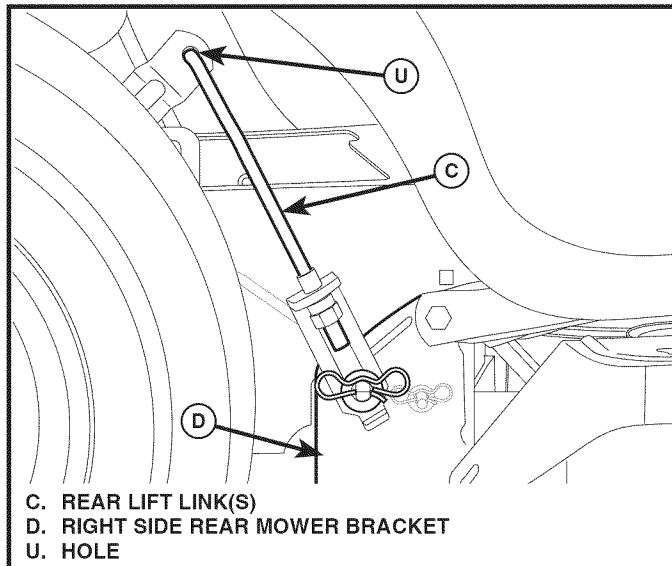

Fig. 37
7. ATTACH REAR LIFT LINKS (C) (See Fig. 37)
- Insert rod end of rear lift link (C) into hole (U) in tractor lift shaft suspension arm and pivot link down to mower.
- Lift rear corner of mower and position slot in link assembly over pin on rear mower bracket (D) and secure with large washer and large retainer spring.